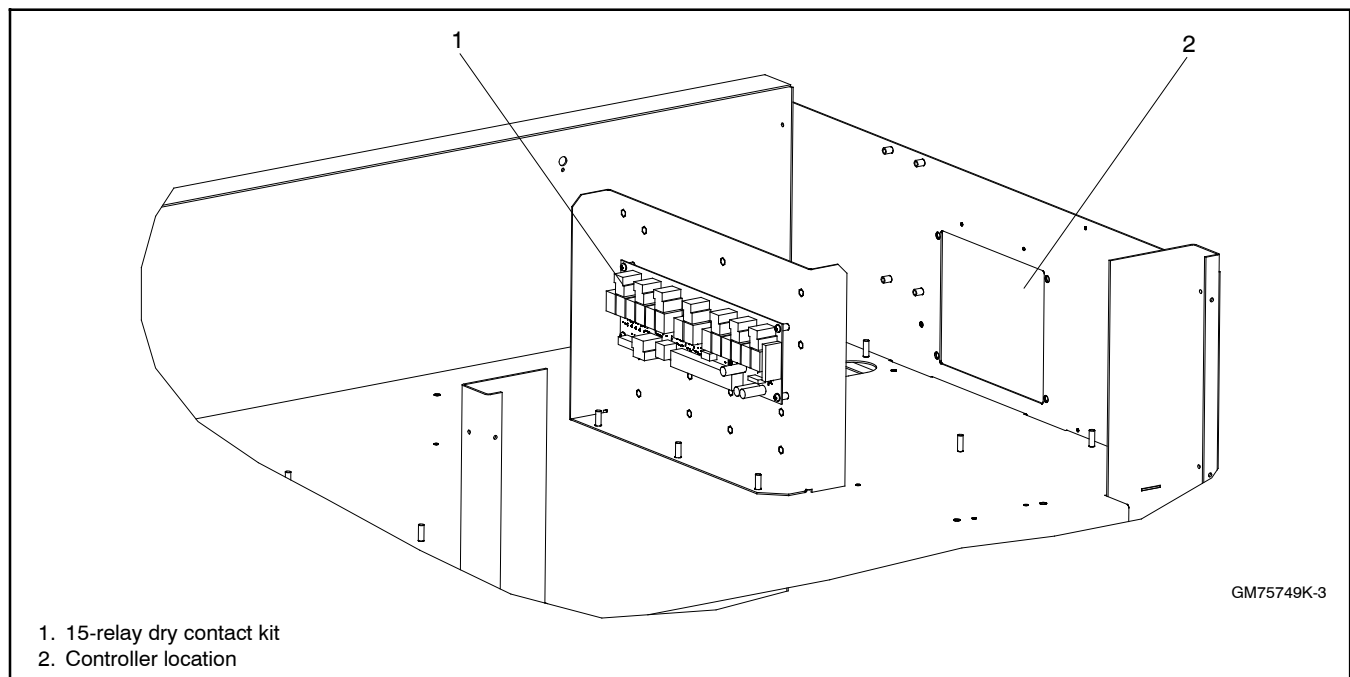
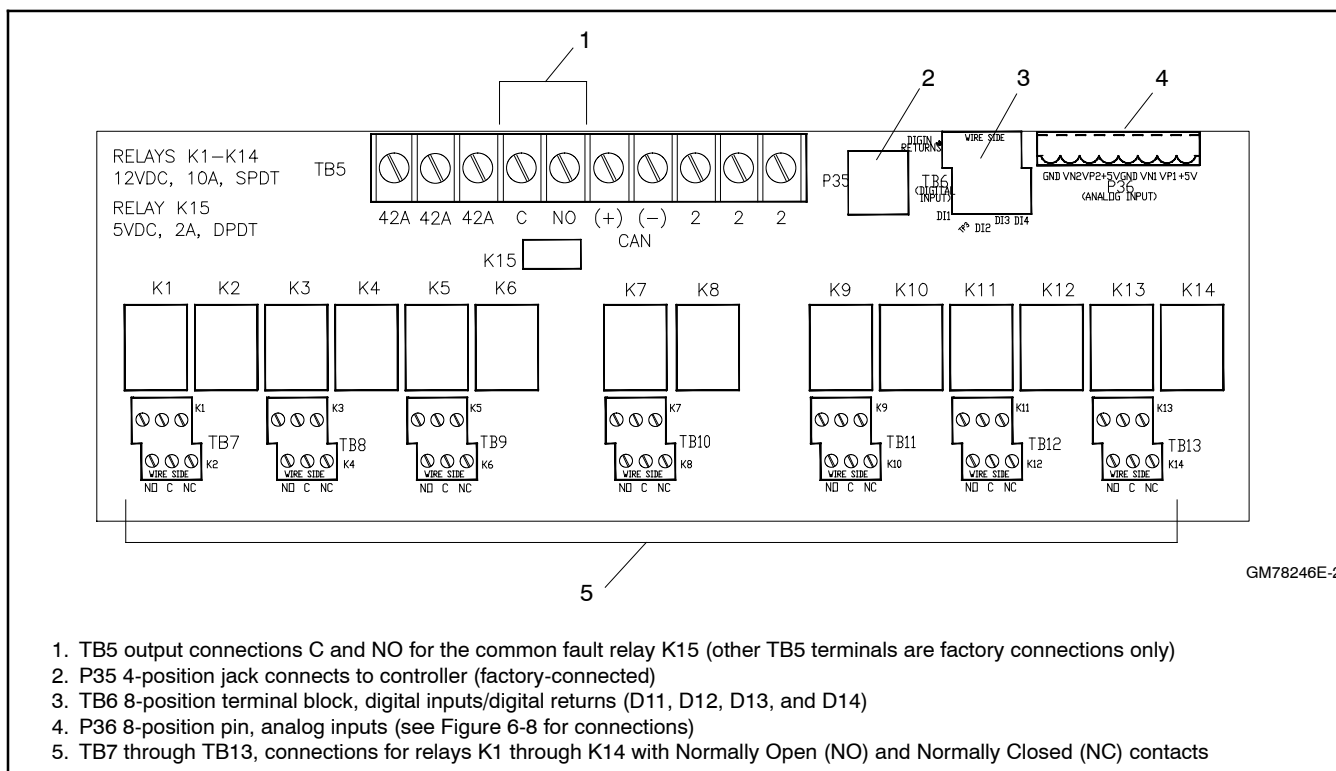

Figure 6-6 Optional 15-Relay Dry Contact Kit
Figure 6-7 15-Relay Dry Contact Board
The optional 15-relay dry contact kit (see Figure 6-6 and Figure 6-7) provides normally open and normally closed contacts to activate warning devices and other user-provided accessories allowing remote monitoring of the generator set. Connect any controller fault output to the dry contact kit. Typically, lamps, audible alarms, or other devices signal the fault conditions.
- 4. Remove the top panel of the controller connection box. See Figure 6-6 for location of the relay board.
Note: See Figure 6-7 for P36 and TB7–TB13 locations.